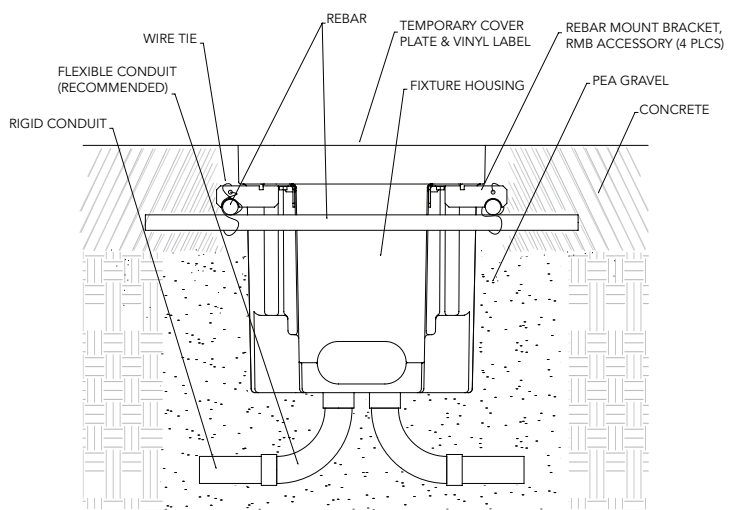

Figure 2
2. Dig hole approximately 16" in dia. to depth suitable to make top of temporary cover plate FLUSH with finish grade (see fig. 2). Pea gravel required for seating luminaire housing and providing drainage.
6. To keep housing from floating during concrete pour, Rebar Mount Bracket (RMB) accessory should be used to affix housing to wire/rebar grid using standard masonry methods (see fig 2).